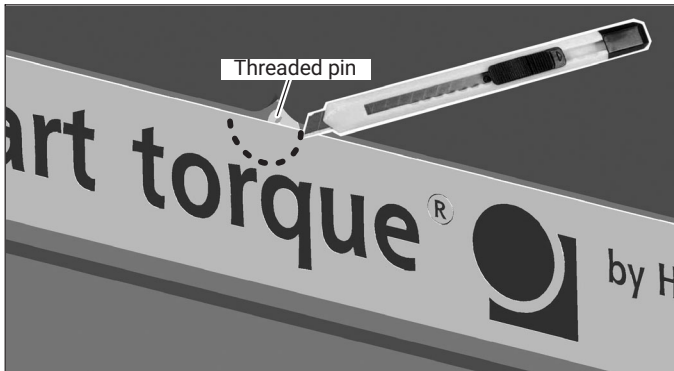

Fig. 8.5 Cut out the film
2. For $500 \text{ N} \cdot \text{m}$ to $3 \text{ kN} \cdot \text{m}$ measurement ranges and retrospective protection against contact orders only: some of the tapped holes for the locking screws are covered by attached film. Make a semicircular cutout in the film here, at least 6 mm in radius (e.g. with a cutter, see Fig. 8.5).